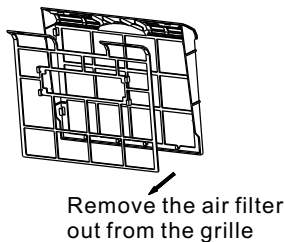

Fig. 23
- Remove the plug from the bottom drain outlet, all the water in the bottom tray will drain out (See Fig. 23).